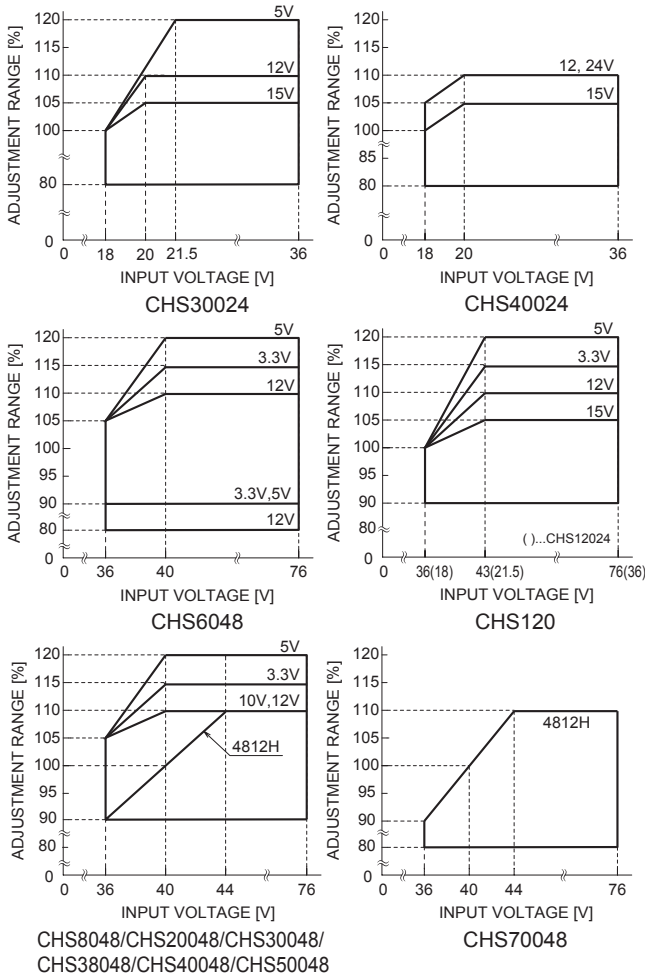

Fig.4.7 CHS Output Voltage Adjustment Range
(4) Input voltage derating
■When input voltage is 18-21.5V DC or 36-44VDC, the output voltage adjustment range becomes as shown in Fig.4.7.